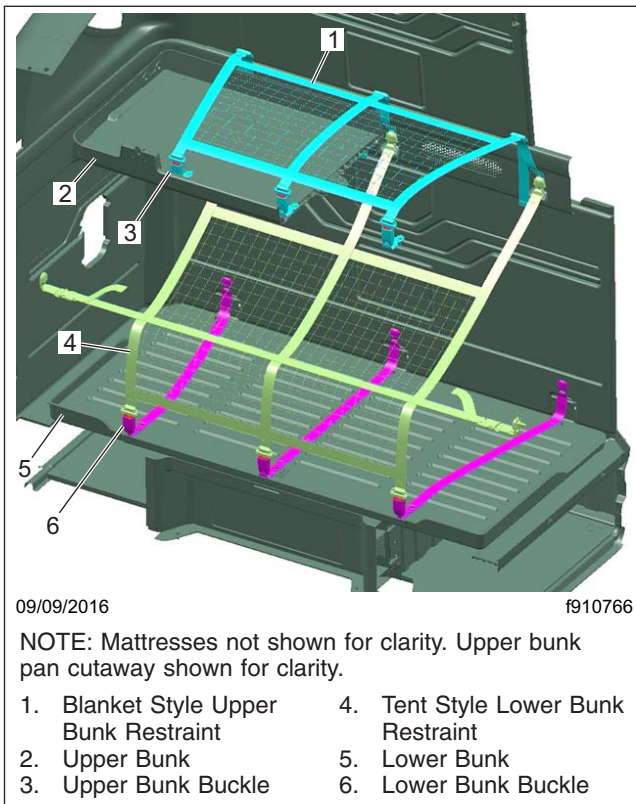

Fig. 7.15, Bunk Restraints
1. Starting at the foot of the bunk, pull the link end of the belt up far enough to engage the buckle. See Fig. 7.15.